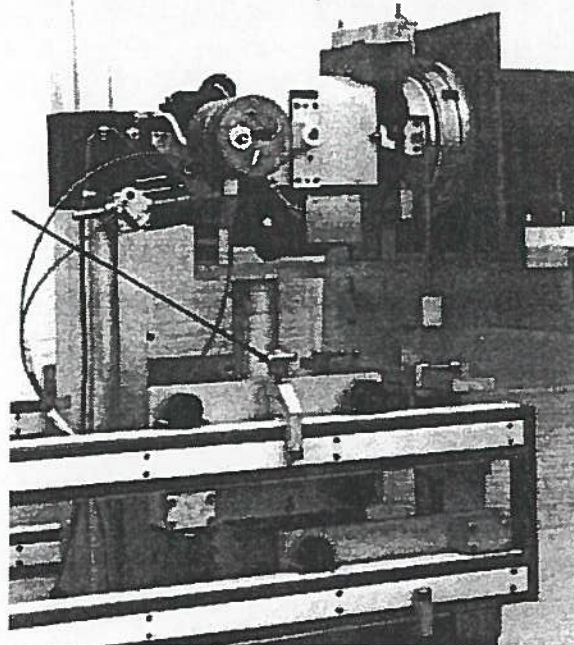
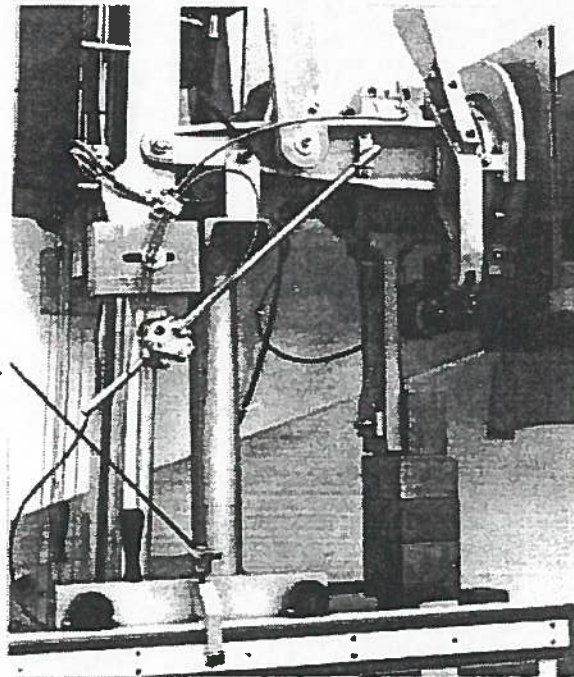

FIG. 20
FIG. 21
11. Release the longitudinal locks on the master jack and roll the manipulator and jack assembly toward the wall until the Model L-HD seal tube has completely entered the wall tube (Fig. 20) or, for other model types the master roller truck has completely entered the wall tube (Fig. 21). Lock the longitudinal locks on the master jack.